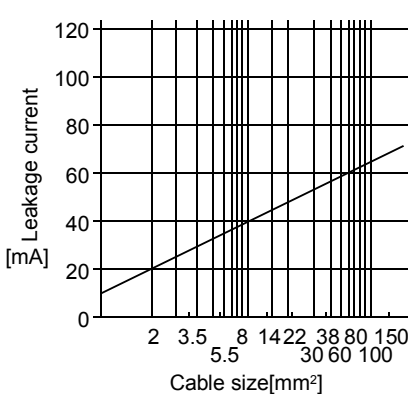

Fig. 15.2 Leakage current example (Ig1, Ig2) for CV cable run in metal conduit
- Ig1: Leakage current on the electric channel from the leakage current breaker to the input terminals of the servo amplifier (Found from Fig. 15.2.)
- Ig2: Leakage current on the electric channel from the output terminals of the servo amplifier to the servo motor (Found from Fig. 15.2.)